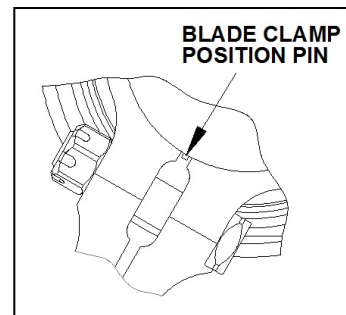

Figure 5-4
- (6) Center the position pin in the slot of the clamp (Figure 5-4).